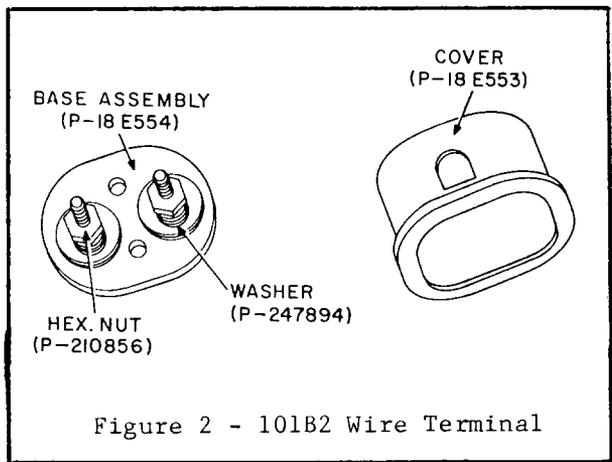

Figure 2 - 101B2 Wire Terminal
4.02 The details of the Superseded 101B2 Wire Terminal is shown in Figure 2. This terminal is no longer available.